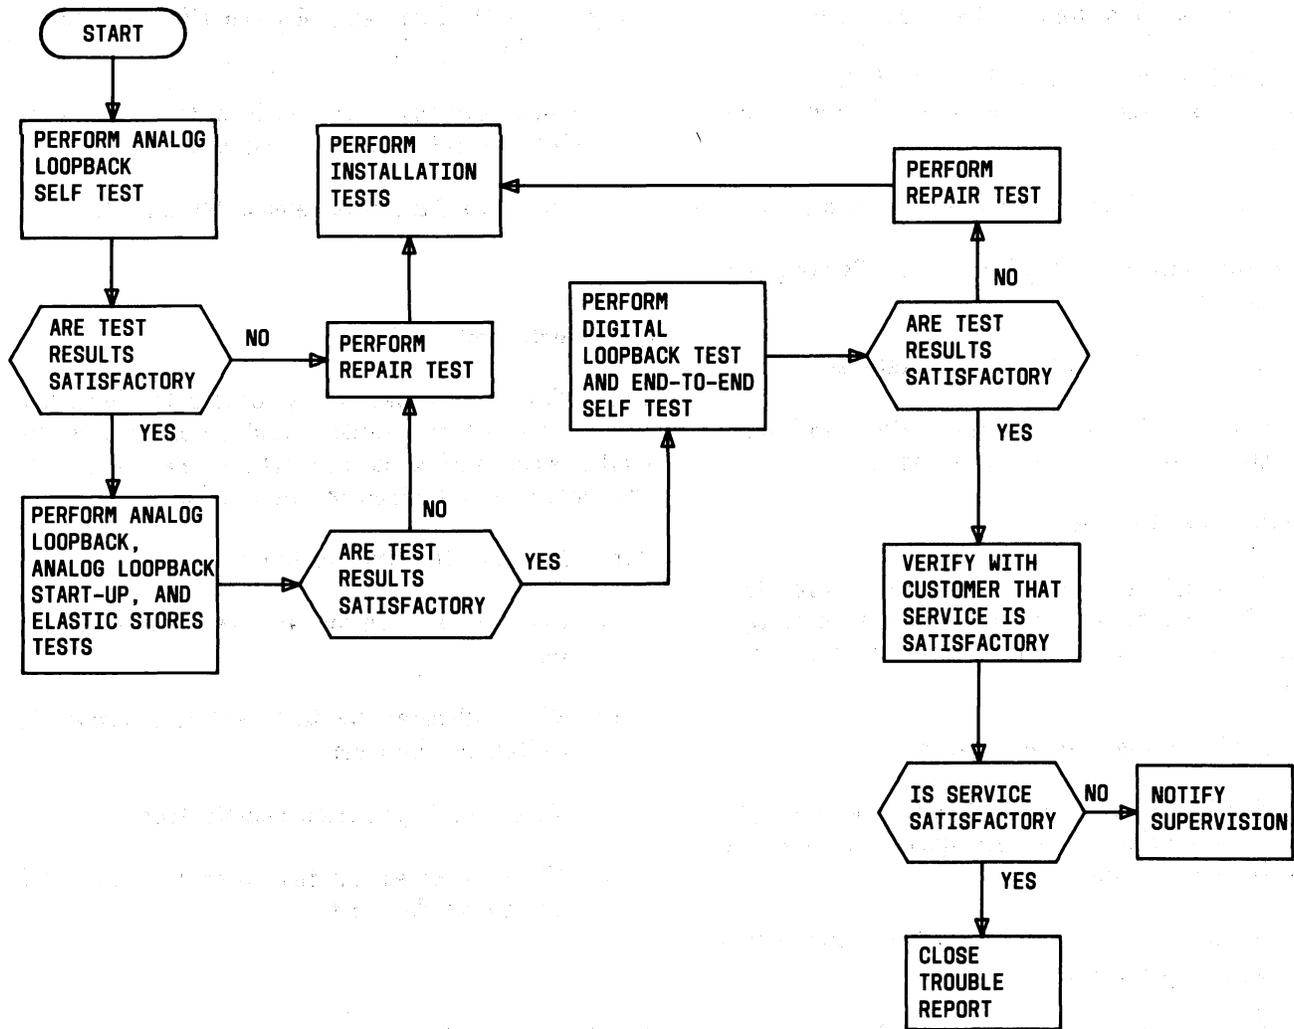

Fig. 4—Maintenance Test Sequence
3.01 This part provides the sequence (Fig. 4) in which tests are to be performed during a maintenance visit to the data station. This test sequence provides a method of isolating a trouble to the data set or the customer-provided equipment (CPE). It is assumed that the maintenance procedures in Section 592-032-300 have been followed prior to dispatching a telco employee to the data station. If the data set is found to be defective, procedures are provided for isolating the trouble